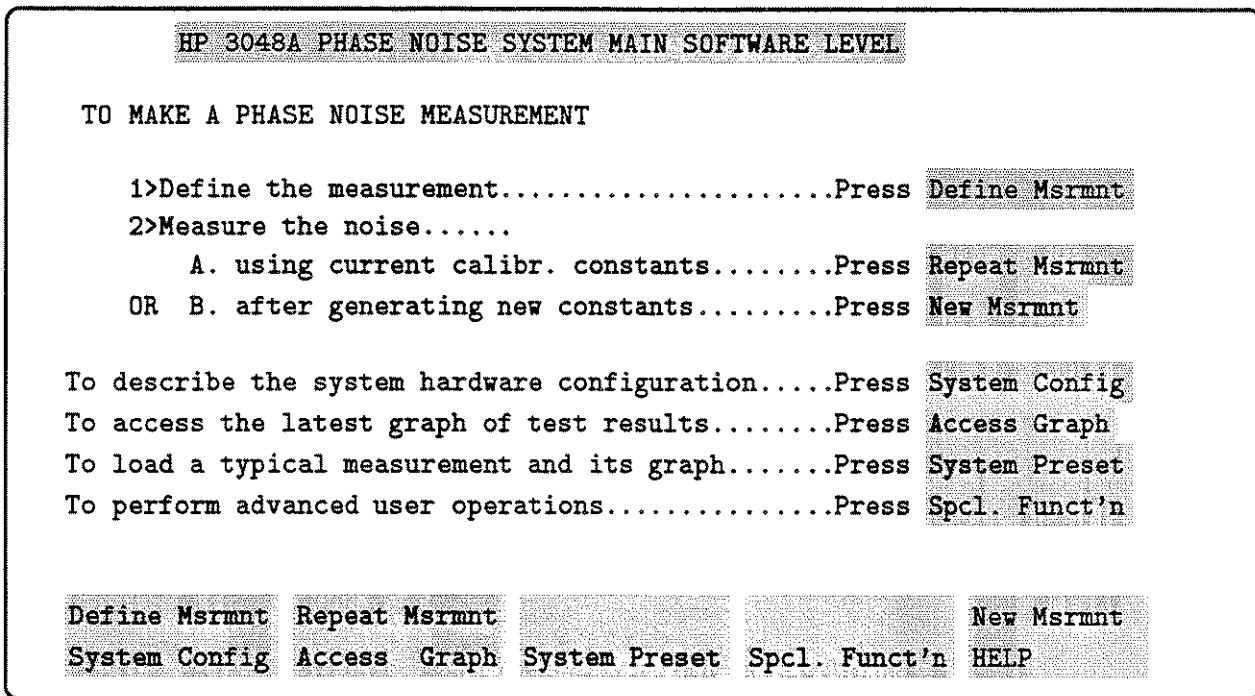

Figure 6-11. HP 3048A Phase Noise System Main Software Level
5. Set the HP 3048A to the Main Software Level menu. Refer to Figure 6-11.